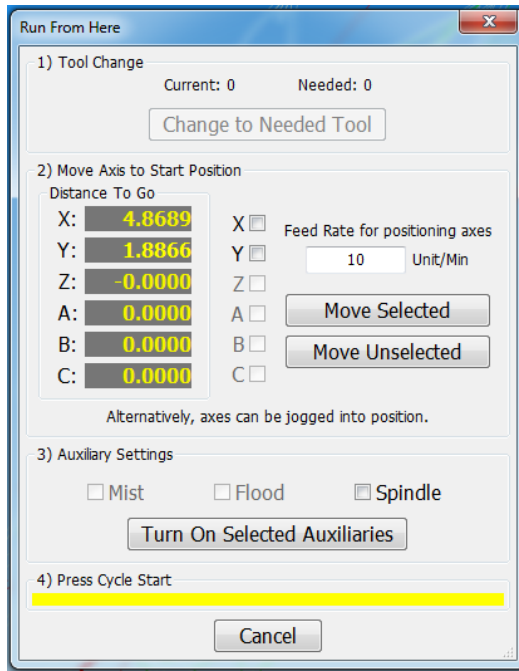

FIGURE 9 – RUN FROM HERE
3. Select the **[Change to Needed Tool]** button if applicable (Figure 9)
4. Enter desired value in the Feed Rate field (Figure 9)
5. Select axis to move and press **[Move Selected]** button (Figure 9) to move the axis into position
6. Select desired Auxiliary Settings and press **[Turn On Selected Auxiliaries]** button (Figure 9)